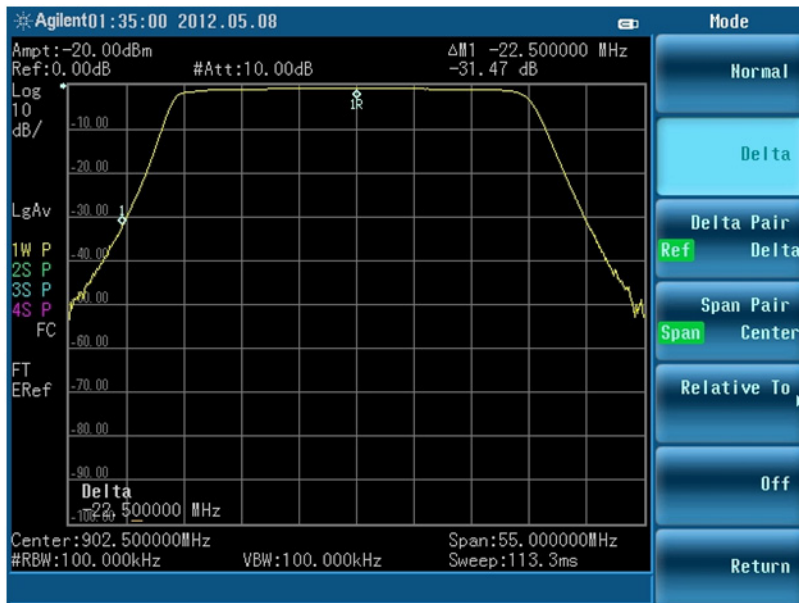

Figure 7. Marker delta readout shows the rejection greater than 30 dBc at 880 MHz
- Press [Marker] > {Mode Normal} > {Delta} and set the marker delta to [-22.5] MHz or [22.5] MHz. The marker delta read out shows the rejection of the filter is above 30 dBc. See figure 7 and 8 for example.